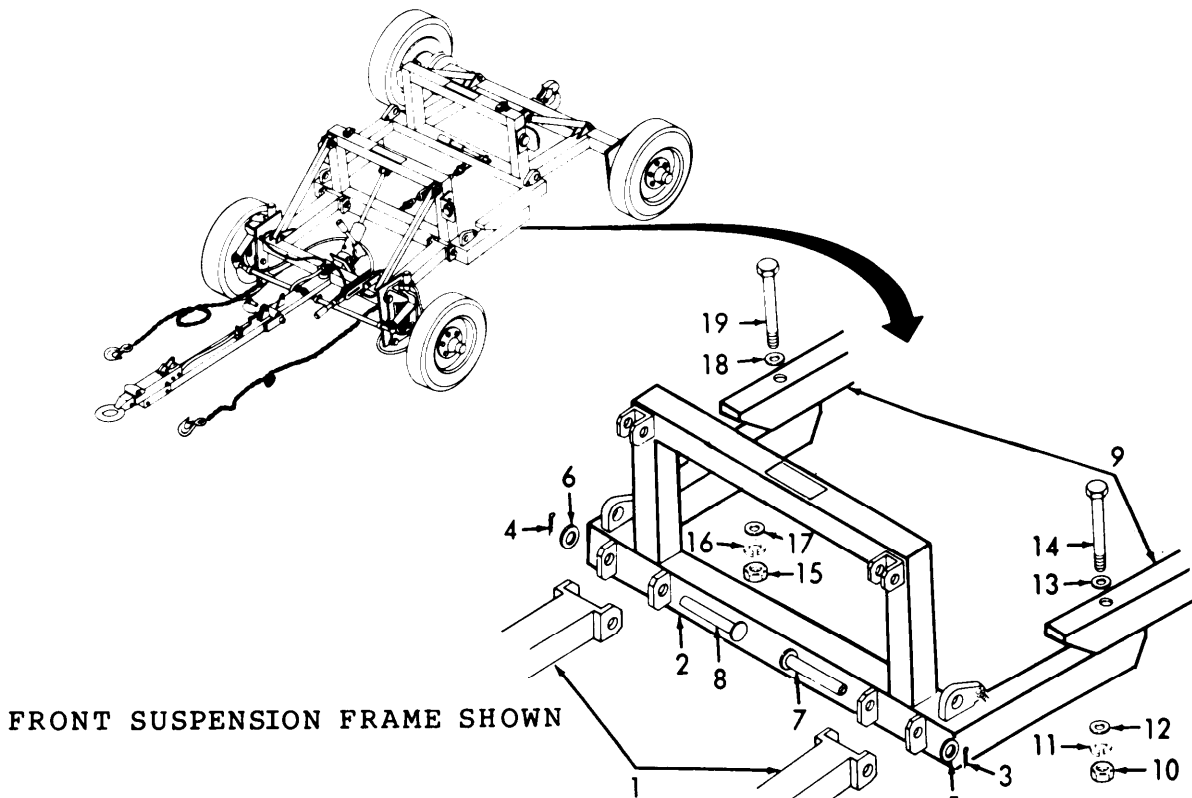

Figure 3-3. Disengaging Suspension from Axle Frame and Rear Frame.
(3) Disengage suspension frame (1, Figure 3-3) from tine (2).